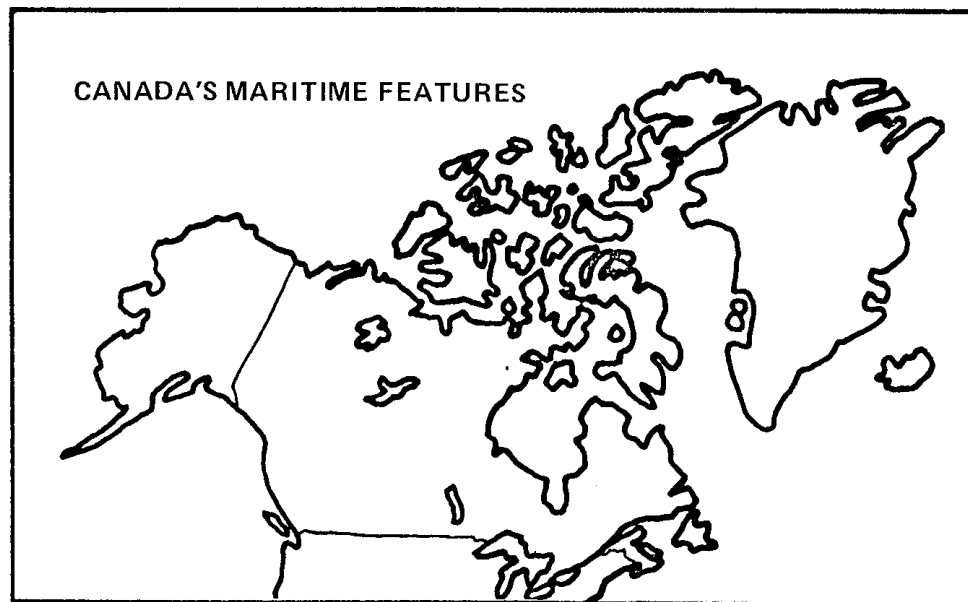

Figure 8-53 Canada's Maritime Features
- (1) with the exception of the United States, Canada is in contact with no other country, except by sea.
- (2) Canada has a coast line of some 45,000 miles, plus an additional 100,000 if the coasts of Canadian islands are included.
- (3) all Canadian Provinces except two (Saskatchewan and Alberta) have salt-water boundaries. The most central Province, Manitoba, has one of our major ports, at Churchill, on Hudson's Bay. (See map, Figure 8-53.)